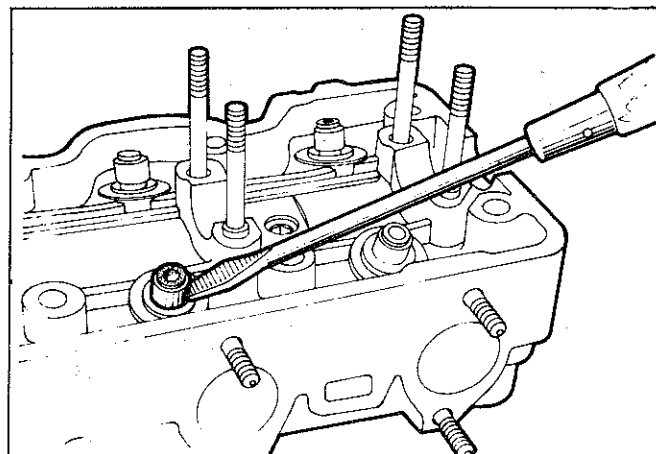

Fig. 12—Removing valve stem seals
- (1) Remove spark plugs.
- (2) Remove camshaft bearing cap nuts.
- (3) Holding the front and rear caps, remove the rocker arm shaft assemblies.
- (4) Disassemble the caps, rocker arms, springs, shafts and wave washers keeping them in the order of removal. Care should be taken not to lose the camshaft cap locating dowel pins.
- (5) Remove the camshaft.
- (6) Using a valve spring compressor, remove the collets, spring retainers, springs, spring seats and valves, keeping them in the order of removal.
- (7) With the aid of a screwdriver, remove the valve stem seals—Refer fig. 12.